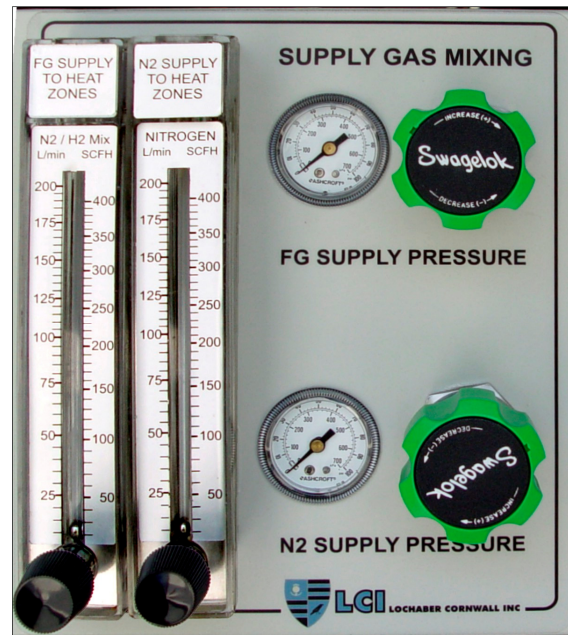

Figure 0-19 Supply Gas Mixing System Control Panel
The GSM system includes two (2) high flow 0-3500 psig pressure regulators each with a 0-100 psi pressure gauge and flowmeter. Users can adjust for 100% forming gas to the furnace for critical reducing operations and later quickly switch to nitrogen to conserve higher cost specialty gas. User can also adjust flowmeters to increase amount of nitrogen in the forming gas mix (Figure 0-19).